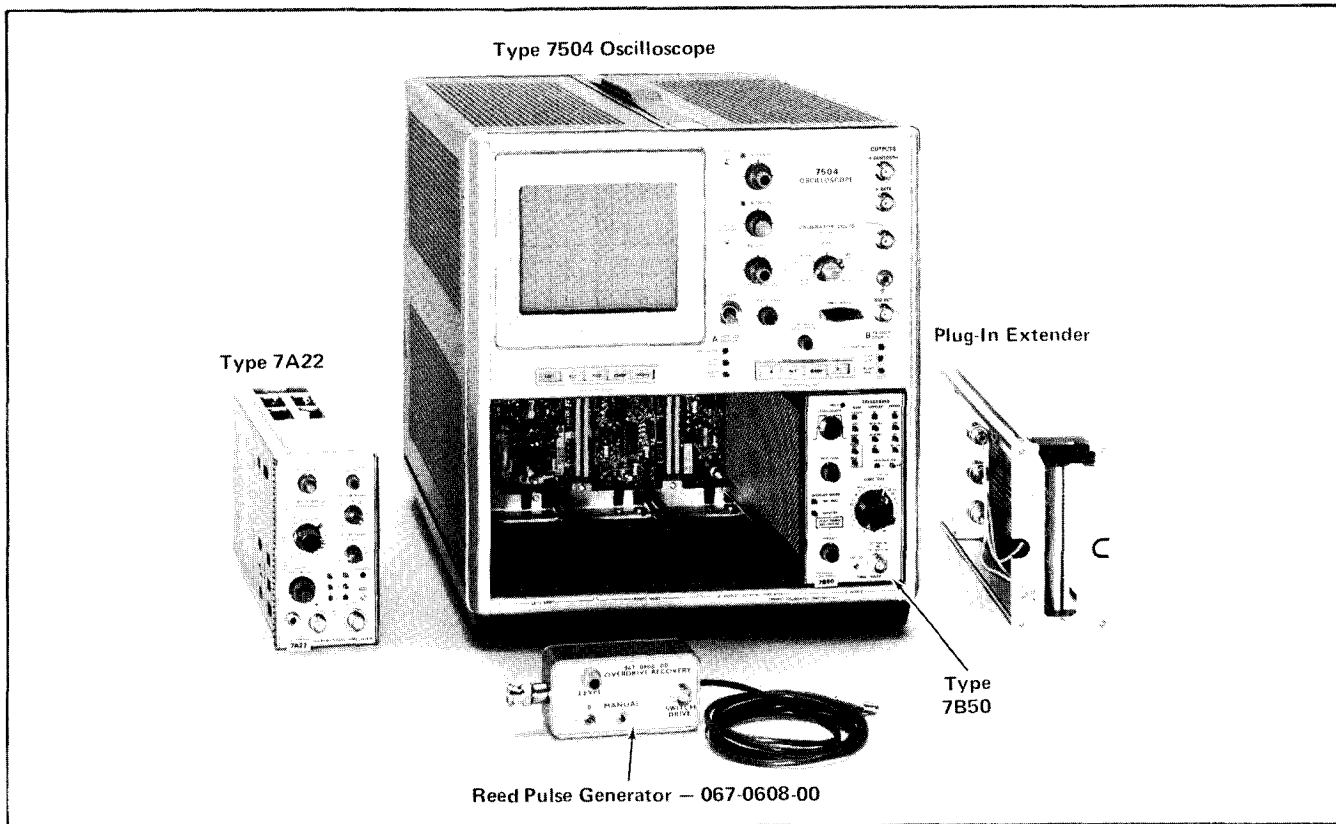

Fig. 5-11. Equipment required for step 26.
- a. Test equipment setup is shown in Fig. 5-11.